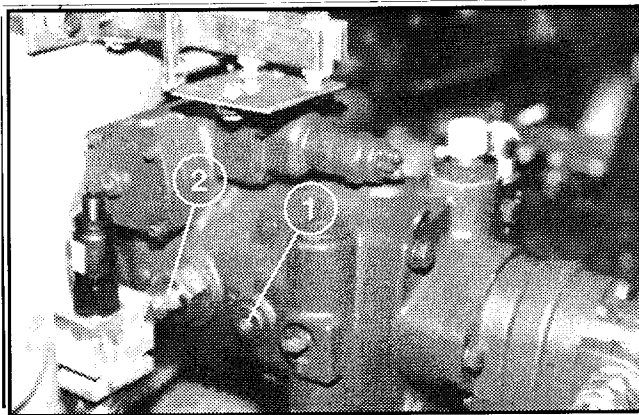

Figure 34
## TEST PORTS (Fig. 34,35)
1. Auxiliary Port is located on left side of piston pump and is used to measure the charge pressure of the transmission. (Fig. 34)
2. Loosen and remove the Relief Valve and Swivel Assembly from the Adapter Fitting in left side of Piston Pump. (Fig. 34)
3. Connect the Pressure Gauge at Adaptor to check case drain pressure. (Fig. 34)